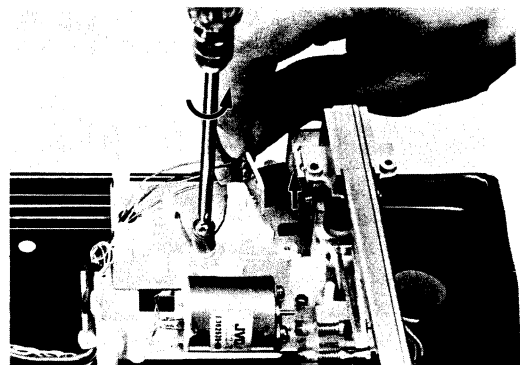

Fig. 12
2. Turn the screw counterclockwise as shown in Fig. 12. Then, in the state in Fig. 12, pull out the board.